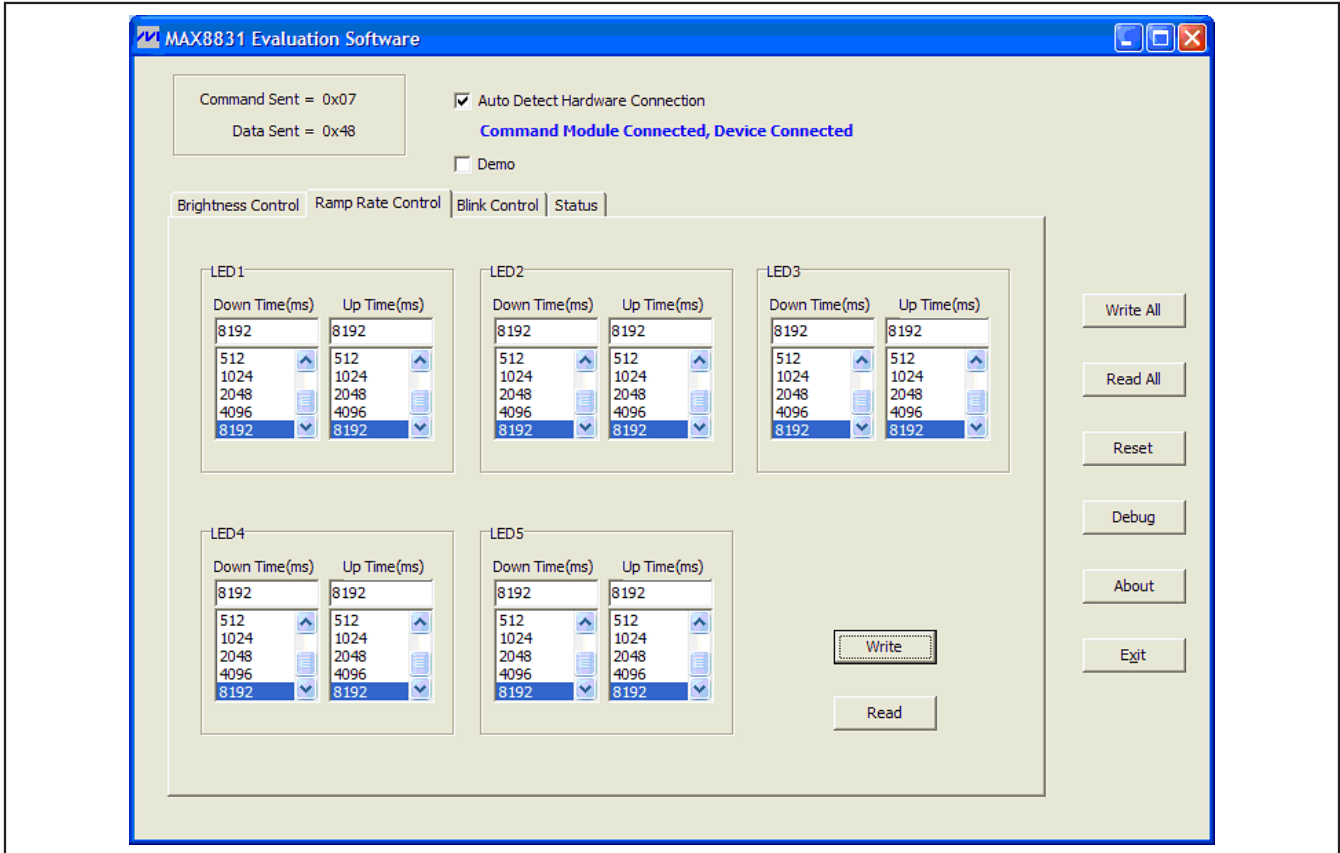

Figure 3. Ramp Rate Control Tab
- 18) Select **8192** for both **Up Time(ms)** and **Down Time(ms)** for LED1–LED5, as shown in Figure 3.
The **Ramp Rate Control** tab sheet (Figure 3) provides independent ramp-up and ramp-down times for each LED current regulator. Both the ramp-up and ramp-down times have eight different settings ranging from 64ms to 8192ms.
When using the ramp functionality of LED3, LED4, and LED5, in combination with the blink timer, it is recommended to keep the ramp-up timer shorter than the blink-on timer and the ramp-down timer shorter than the blink-off timer. Failing to comply with this restriction results in LED_ current not reaching maximum value during blink-on time, and LED_ current not returning to minimum current before turning off during the blink-off time. Refer to Figures 3 and 4, and the *Combining BLINK Timer and RAMP Functions* section in the MAX8831 IC data sheet for more details.